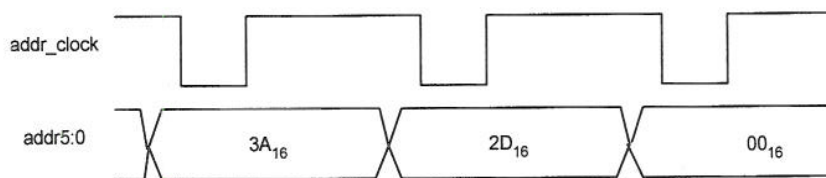

Figure 2.2
c) Given that the timing diagram for the input signals $addr_clock$ and $addr[5:0]$ are as shown in *Figure 2.2*, draw the timing diagram for the signals at X and Y. Label your timing diagram with the following four possible signal states: driven low (DL), driven high (DH), charged low (CL) and charged high (CH). [4 marks]